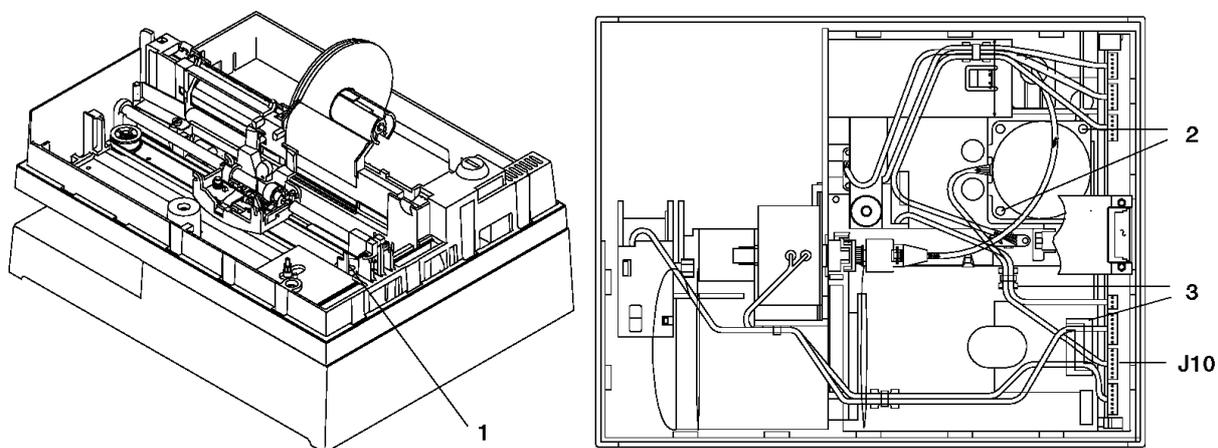

Figure 5-25. Print Head Carriage Motor. For illustration, the top cover has been removed. Removal of the cover is not necessary for this procedure.
1. Remove the carriage drive belt from the motor pulley (1). See Figure 5-25 in topic 5.5.21.2.
4. Remove the motor cable from its retainers (3).
5. Remove the motor screws (2).
1. Put the carriage drive motor into place as shown in Figure 5-25.
2. Reinstall the motor screws (2).
3. Put the motor cable into its retainers (3).
6. Put the drive belt on the motor pulley (1).